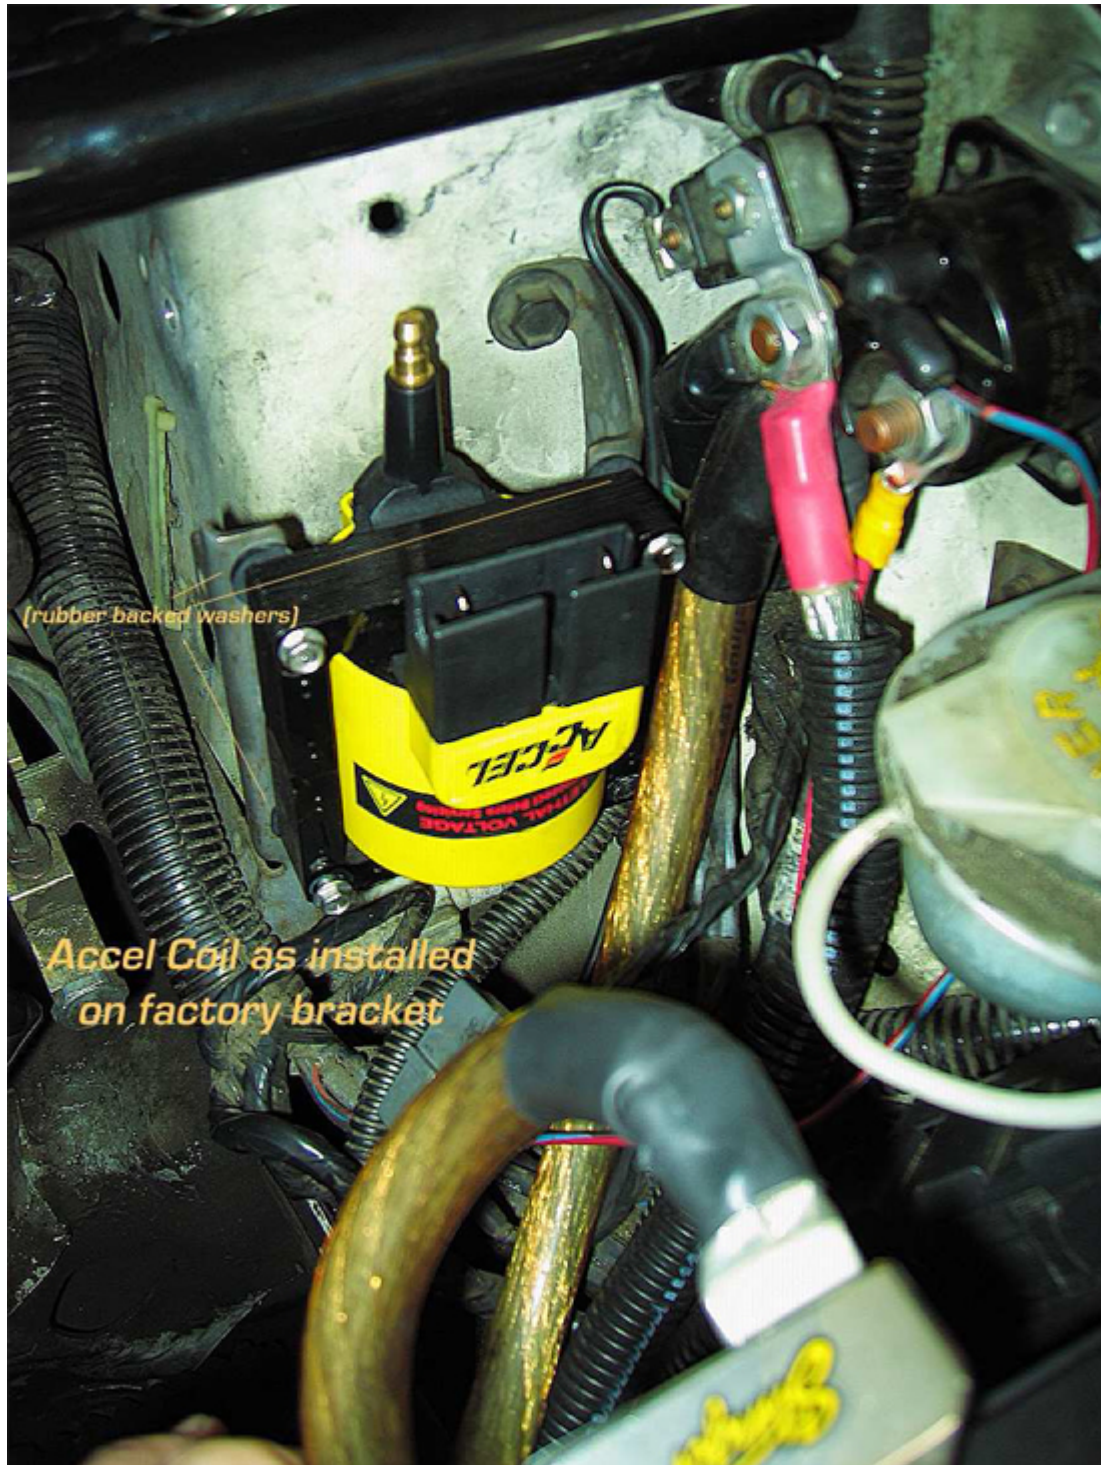

Fig5a
9. Using the supplied new rubber-backed washers and screws, attach the Accel Coil to the mounting bracket. Tighten the screws just snugly with the 1/4" socket. – I used the rubber-backed washers between the bracket and coil to reduce vibrations getting to the coil. Do not over-tighten these little screws or you risk stripping out the bracket holes. With the new coil in place (See: Fig5a below), move to the mounting location of the Ignition Control Box.